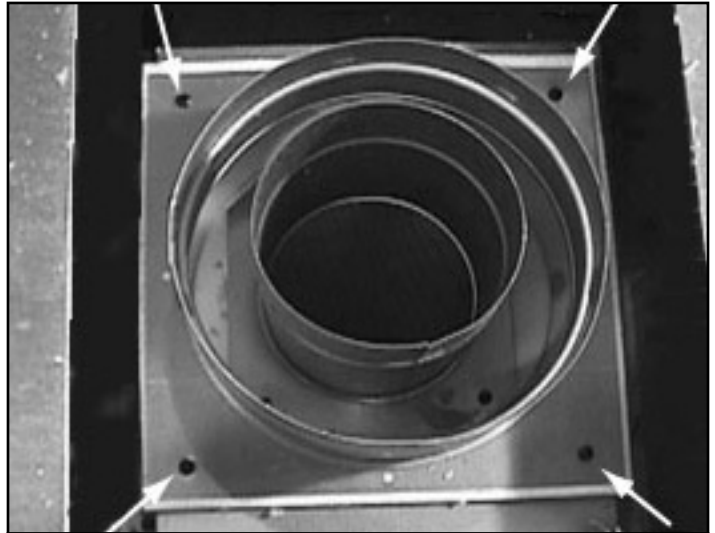

Figure 7.4 Outer Collar, Remove Four Screws
- Remove four screws holding outer collar to appliance top. See Figure 7.4. Remove outer collar.